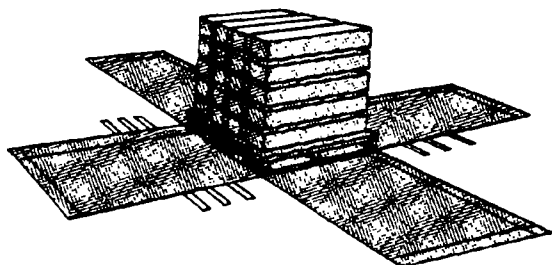

Figure 1-2. Centered Load
The best way to learn about this carrying device is to rig and derig it several times. Figures 1-2 through 1-6 and the following steps explain how to rig an A-22 cargo bag:
Step 3 - Center the load on the canvas/nylon cover (Figure 1-2). Place the load so that any sharp corners or objects are toward the center of the load, if possible. Use cushioning material to protect the cover, if necessary.